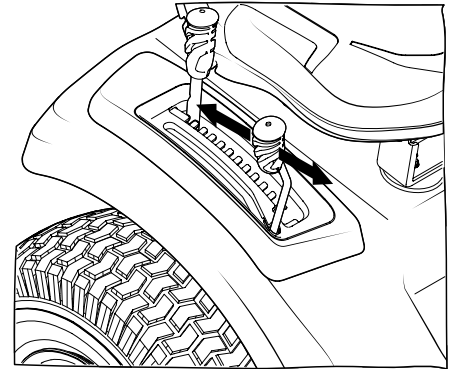

Figure 3-5
2. Push the PTO handle forward into the engaged (ON) position. See Figure 3-5.